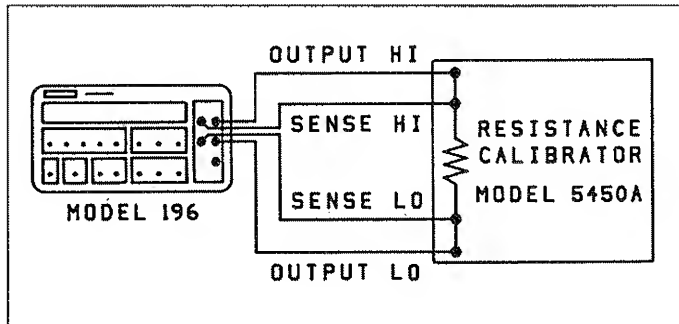

Figure 4-3. Connections for Ohms Verification (300 $\Omega$ —30k $\Omega$  Range)
2. Using Kelvin test leads (such as the Keithley Model 1641) connect the resistance calibrator to the Model 196 as shown in Figure 4-3.
6. Utilizing Figures 4-3 and 4-4, check the 3kΩ through 300MΩ ranges by applying the respective resistance levels listed in Table 4-4. Verify that the readings are within the limits listed in the table.